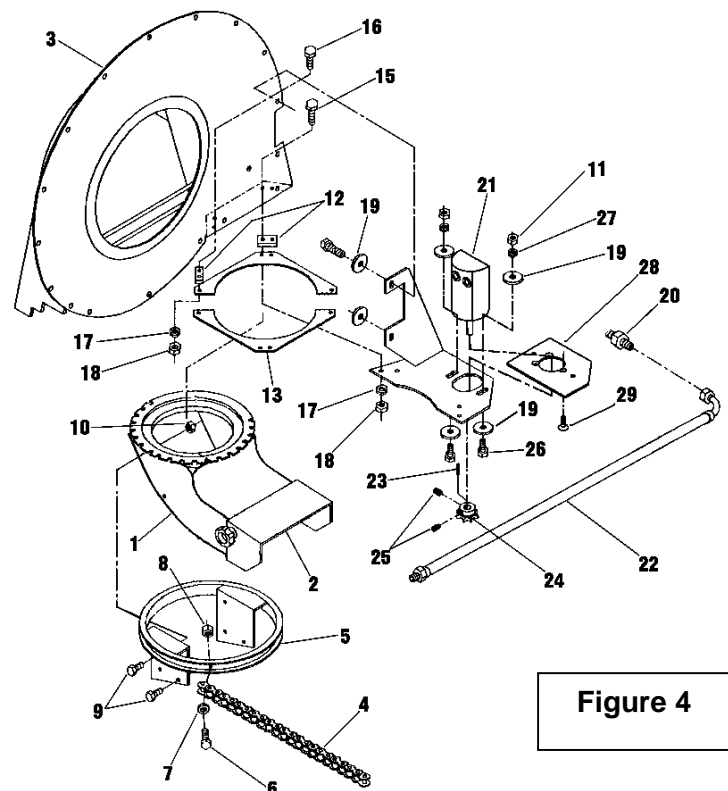

Figure 4
1. Remove the air blast nozzle (fig.4, item 1) from the debris blower. Discard bolts and nuts.
2. Remove the deflector (fig.4, item 2) from the air blast nozzle. Keep bolts and nuts on hands.
AIR BLAST NOZZLE ASSEMBLY (Fig.4)
HYDRAULIC MOTOR ASSEMBLY (Fig.4)